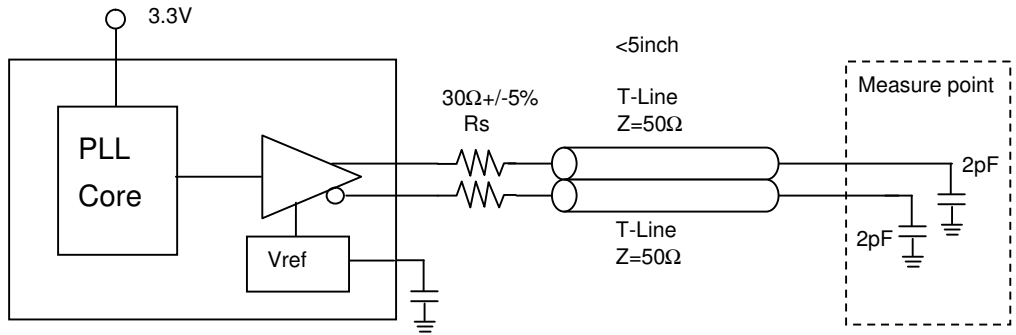

Figure.1 CLK1 Load condition
(1) CLK1p/1n:148.5MHz, CLK2=108MHz,CLK3/4=36.864MHz,REFOUT=27.0MHz
(2) CLK1p/1n: Figure1, CLK2-4: Cp1=15pF, REFOUT:Cp2=25pF
(2) Measured with load capacitance of 25pF
(3) Measured with load capacitance of 15pF
(4) Measured with load condition shown in Figure.1
(6) 16ms accumulate with higher than 10GSa/s, under HDMI Compliant test Ver1.3a condition.